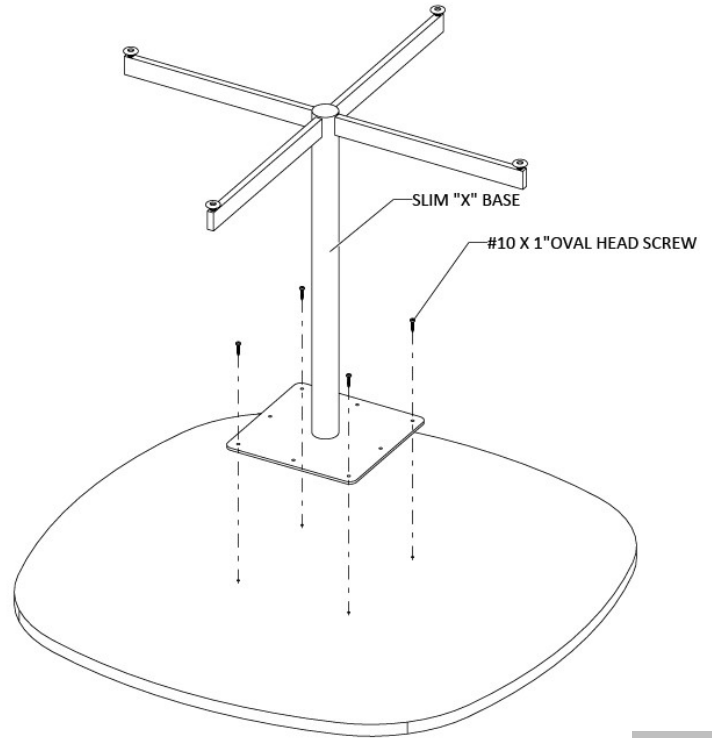

Figure 2
2. Position the slim "X" base using the pre-drilled positioning holes and attach it to squircle table top using #10 X 1" Oval Head Screws, (Figure 2).